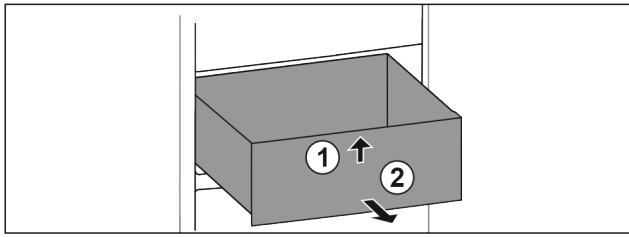

Fig. 91
- Lift up drawer at the front. Fig. 91 (1)
- Remove drawer to the front. Fig. 91 (2)